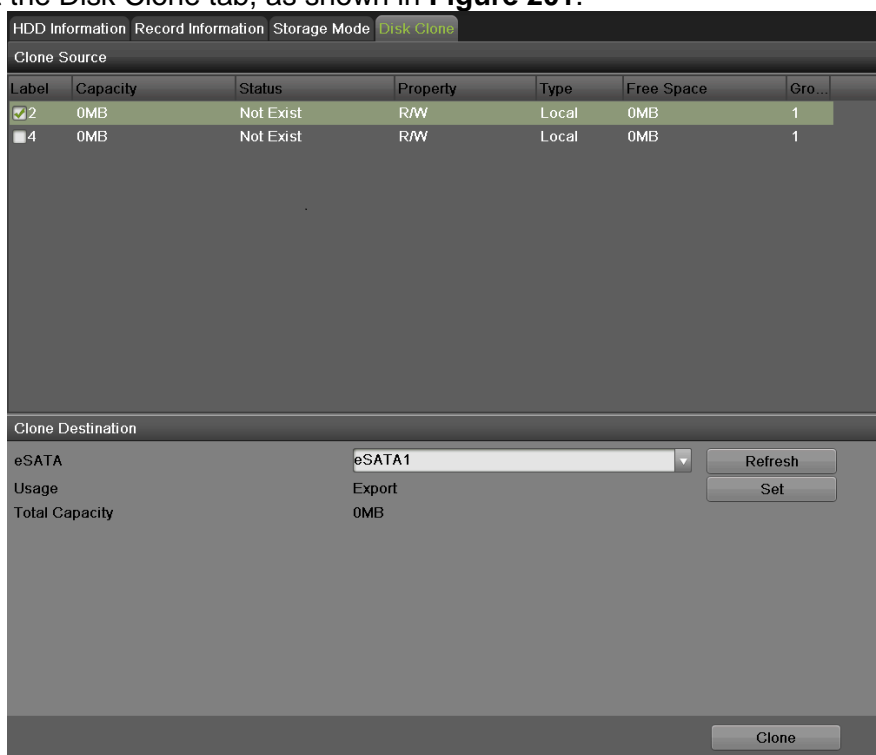

Figure 201 Local HDD Settings
2. Select the Disk Clone tab, as shown in **Figure 201**.